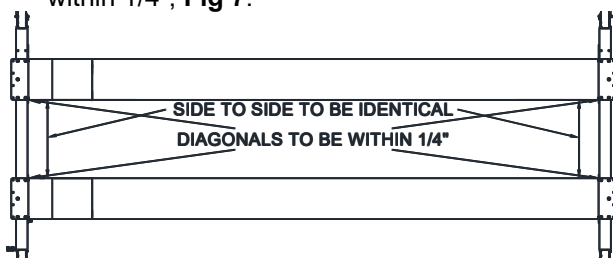

Fig 7 – Final Runway Positioning
- 8) Check the layout of the lift in the bay. (**This is the last opportunity to reposition the lift.**) Adjust the position of the runways so the distance from power side jack rail to idler side jack rail is the same at the front and the rear and the diagonal measurements from the front tip of one rail to rear tip of the opposite rail are within 1/4", **Fig 7**.